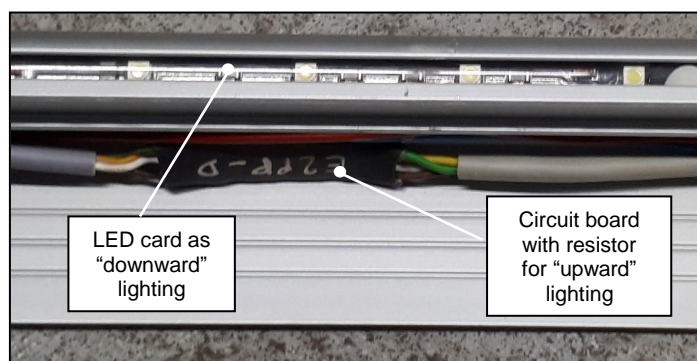

Figure 1: Identification of early step nose lighting unit
- The early units (which are limited available as spare part) are provided with a LED card for the “downward” light and an optical fiber for the “upward” light. These units have a small circuit board with a resistor to reduce the 24V power supply to an operating voltage of 3V for the optical fiber (refer also to figure 1).